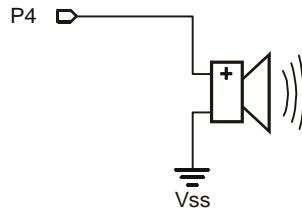
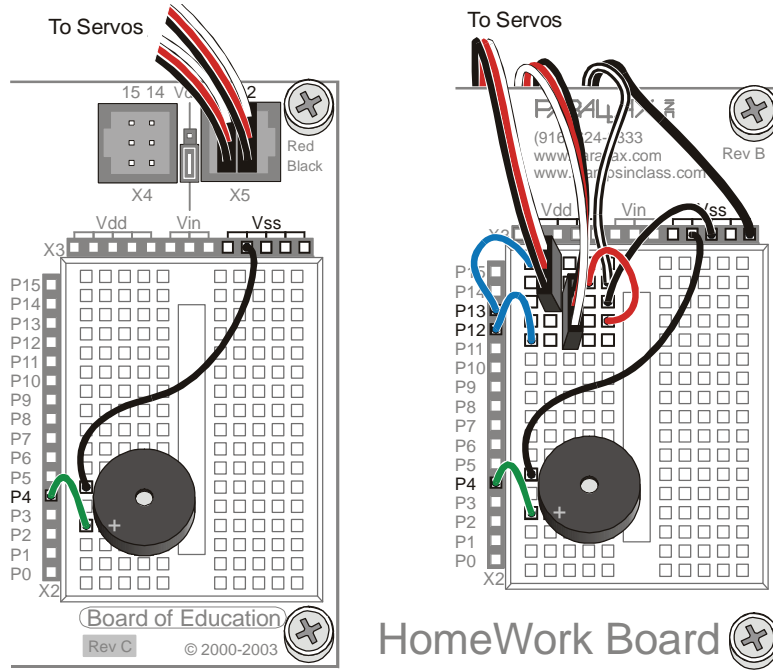

Figure 3-17
Figure 3-18
Figure 3-17 shows piezospeaker alarm circuit schematics for both the Board of Education and BASIC Stamp HomeWork Board. Figure 3-18 shows a wiring diagram for each board.
- ✓ Build the circuit shown in Figure 3-17 and Figure 3-18.